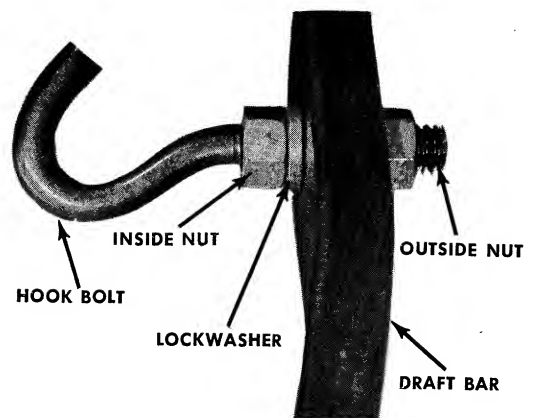

**FIGURE 6. PULL ROD ASSEMBLY**
Step 4. Assemble the clevis end of the pull rods to the top hole in the draft bars using the short clevis pins and secure with cotter hairpins. See Figure 6.